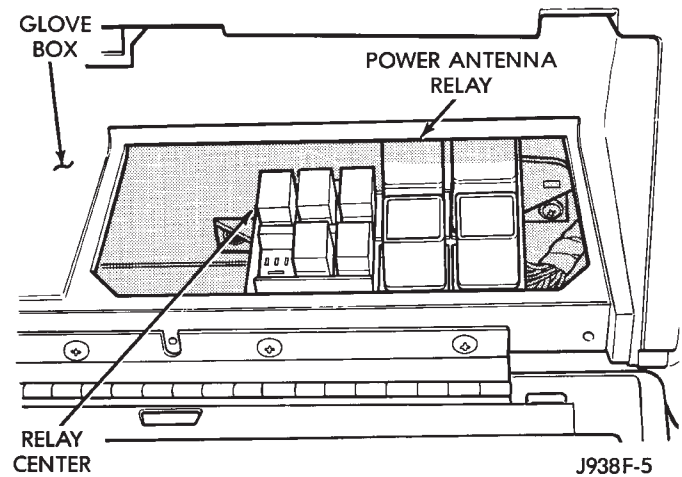

Fig. 2 Power Antenna Relay
(2) Replace power antenna relay (Fig. 2)